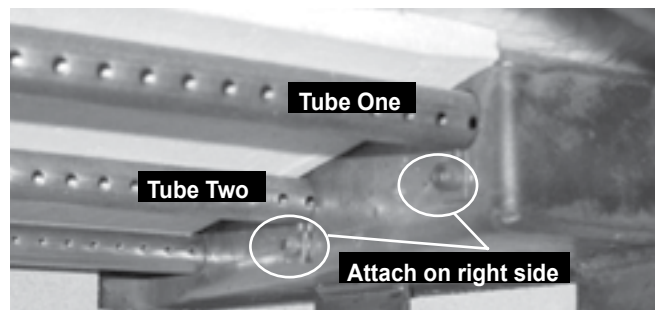

Figure 20.2 - Manifold tubes in roof of firebox.
5. Slide fiber board baffle forward to front of stove and straight out through door. **See Figure 20.2.**